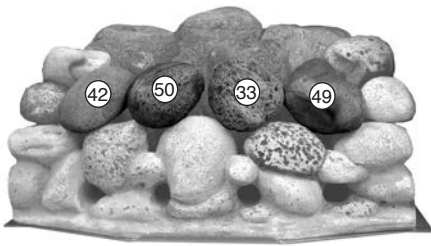

Fig. 30
4. Lay the first row of four loose pebbles on top of the front coal. Ensure the back of the pebbles are resting on the coal bed and there are even gaps all round (Fig. 30).